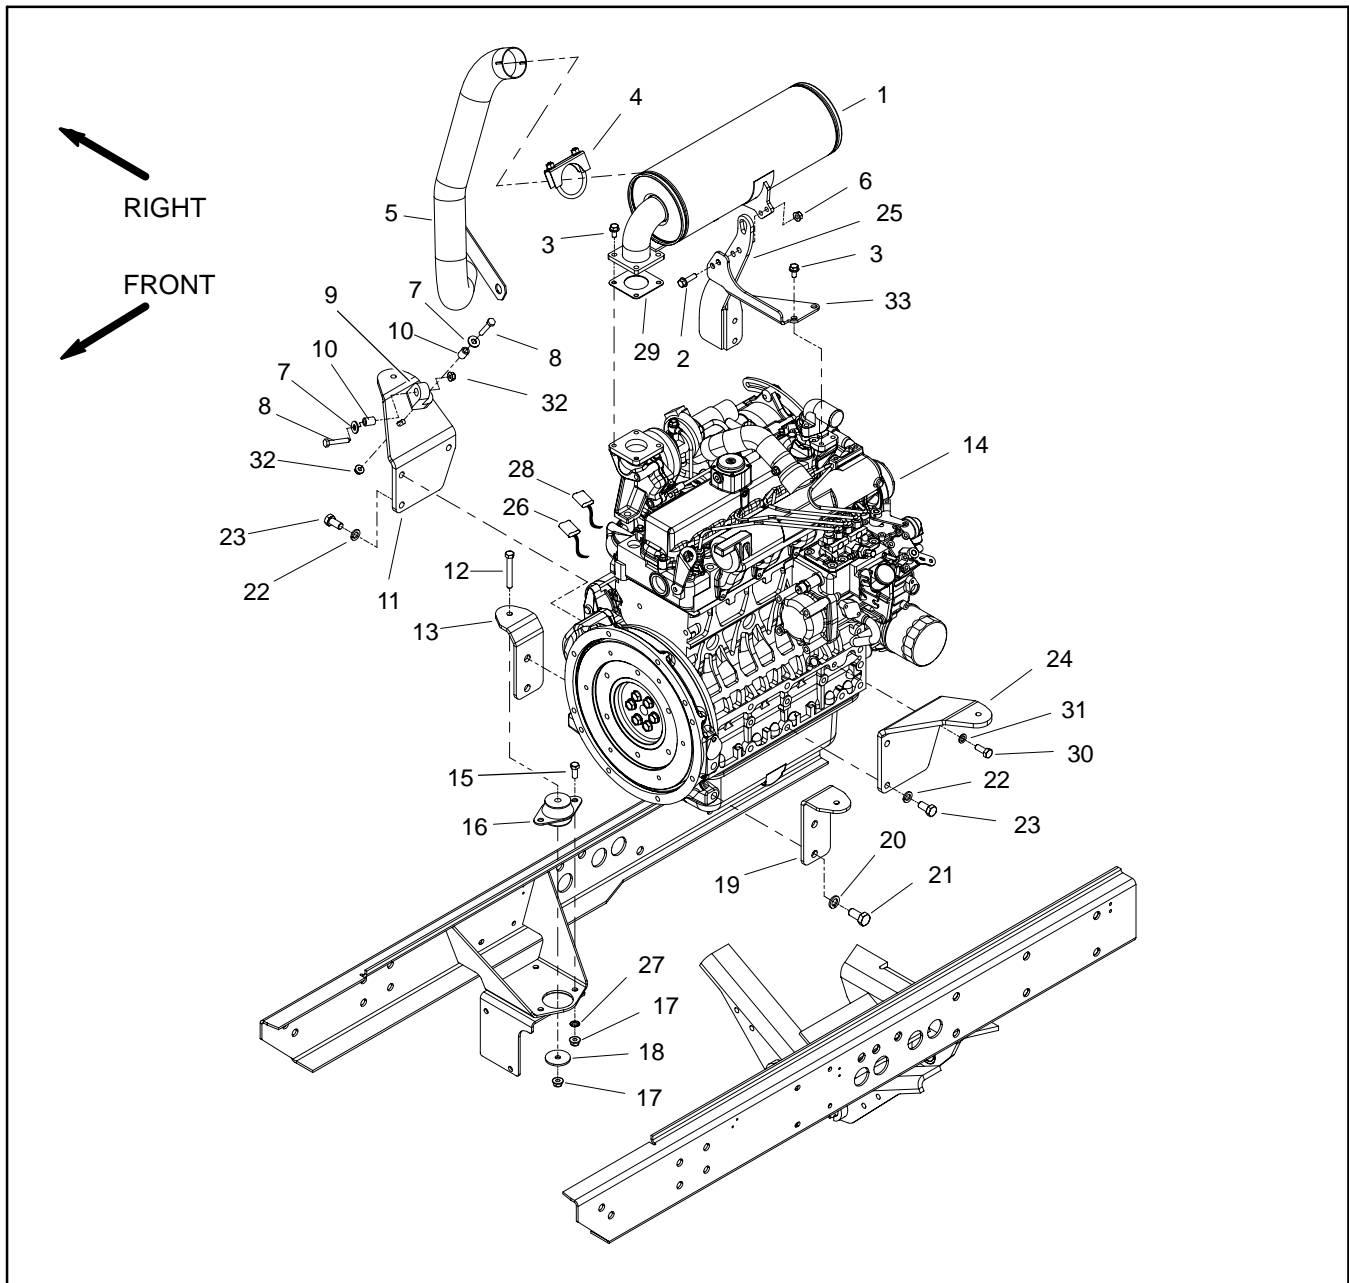

Figure 10
Engine Removal (Fig. 10)
17. If necessary, remove engine mounts from the engine using Figure 10 as a guide.
Engine Installation (Fig. 10)
1. If removed, install engine mounts to the engine using Figure 10 as a guide.